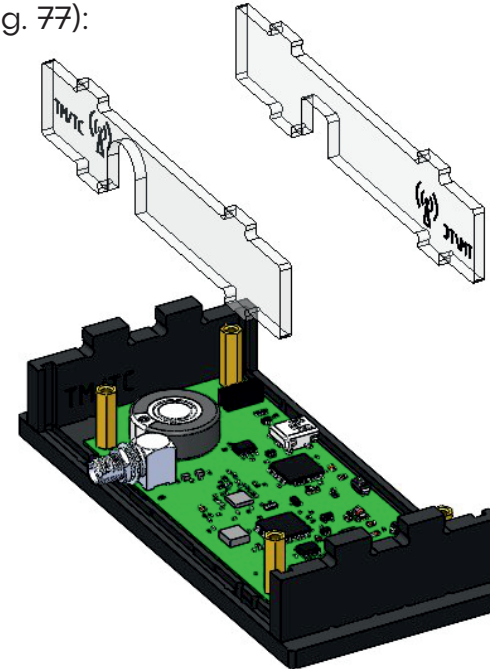

Fig. 77: Mounting transparent panels
3) Mount two transparent panels on the bottom base plate. To do that, slide each panel along guide rails in walls until it touches the bottom base plate, then latch it (Fig. 77):